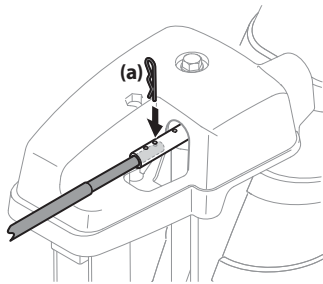

Figure 2-47
6. Push chute control rod toward the control panel until hole in rod lines up with middle hole in chute control input and insert cotter pin (a) removed in Step 1. See Figure 2-47.